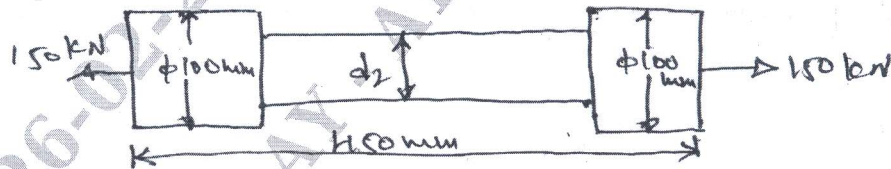

Fig. Q2 (c)
- c. A bar shown in Fig.Q2 (c) is subjected to a tensile load of 150 kN. If the stress in the middle portion is limited to 160 N/mm^2 , determine the diameter of the middle portion. Also find the length of the middle portion. If the total elongation of the bar is to be 0.25 mm, young's modulus is equal to $2 \times 10^5 \text{ N/mm}^2$ (08 Marks)